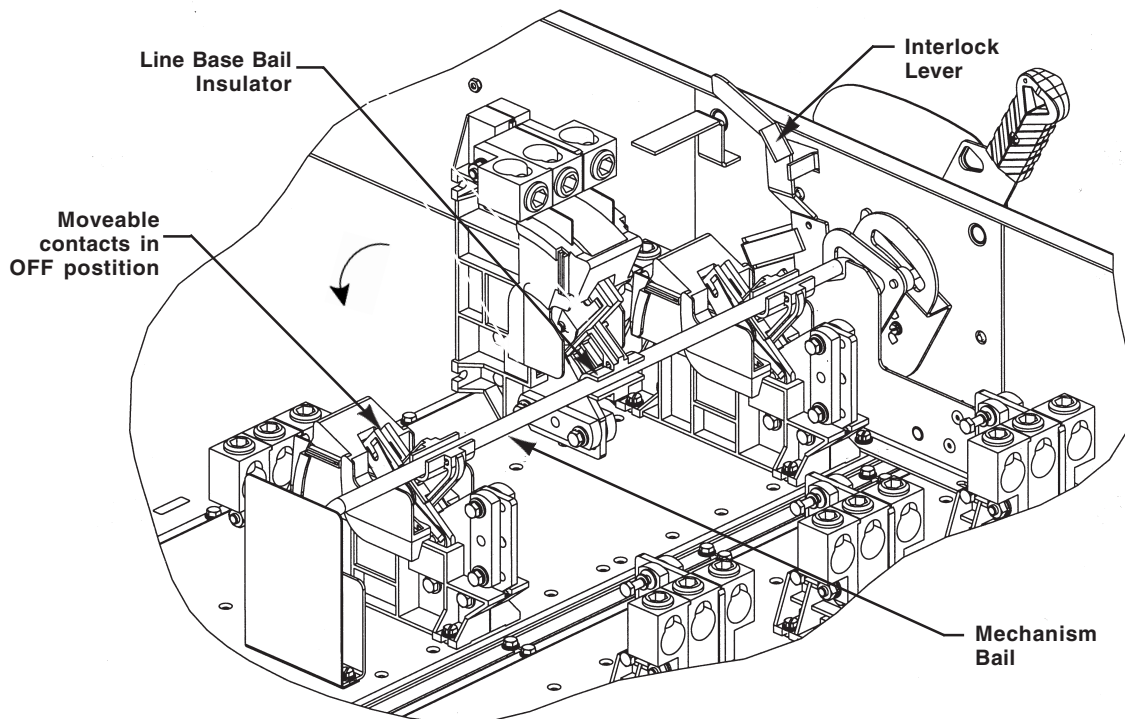

Fig. 2
3. Verify that the Moveable Contacts are in the **OFF** position. **See Figure 2.**
11. Place Line Base Bail Insulator into Mechanism Bail and rotate new Line Base assembly into position, see **Figure 2**. Slide Line Base assembly into Mounting Screws left loosened above. Insert the two (2) remaining $\frac{1}{4}$ - 20 x $\frac{1}{2}$ " Mounting Screws but do not tighten.
- a. Move the Safety Switch Handle to the **ON** position (Hold Interlock Lever below the front of the enclosure to operate switch with the door open. **See Figure 2**)